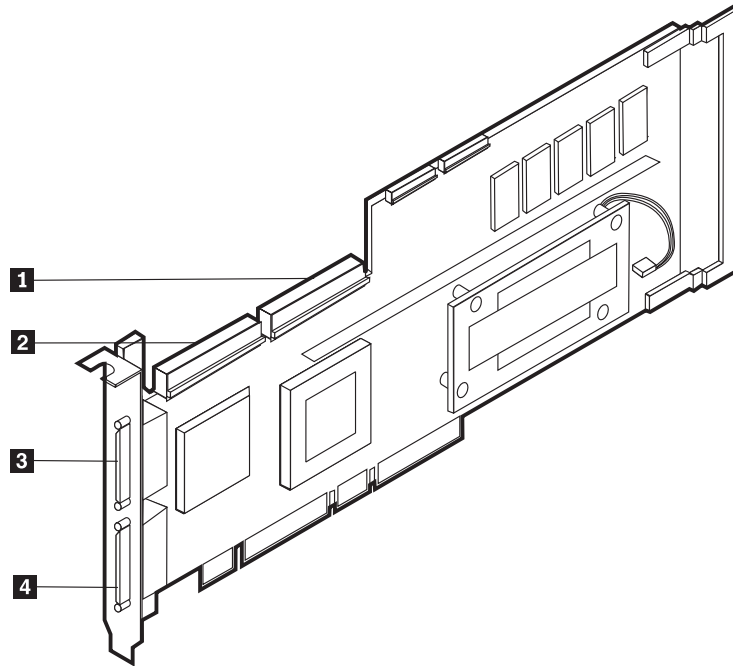

Figure 120. ServeRAID-4Mx controller
1. Connect one end of a 68-pin very-high-density connector interface (VHDCI) SCSI cable to an external channel connector (channel 2 if there is no IBM Netfinity 3-Pack Ultra320 Hot-Swap Expansion Kit installed, channel 1 or 2 on a second ServeRAID-4Mx if there is a IBM Netfinity 3-Pack Ultra320 Hot-Swap Expansion Kit installed) on the primary or secondary ServeRAID controller. (See Figure 120 on page 189 for the channel connector locations.)